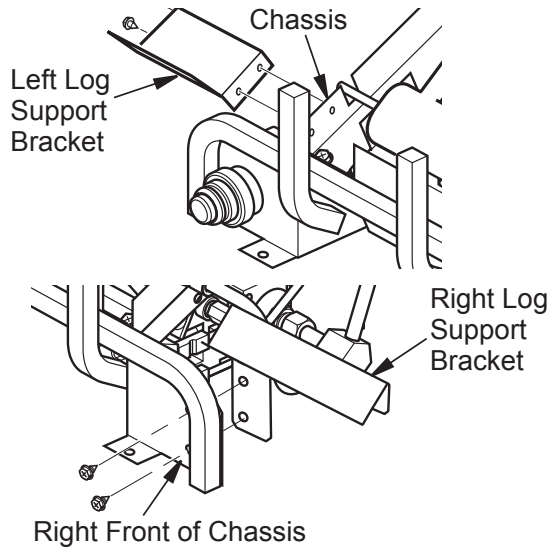

Figure 22- Installing Log Support Brackets
1. Install left bracket to left side of chassis using 2 screws provided (see **Figure 22**).
2. Install right bracket to right front of chassis using 2 screws provided (see **Figure 22**). This bracket will also be used as remote control bracket if remote is installed.